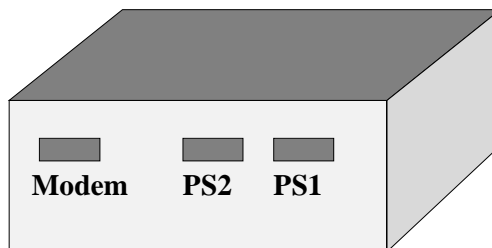

Figure 3-9. Power Distribution Module
5. Unplug the PS1, PS2 and Modem power supply cables from the back of the module, as shown in Figure 3-9, below: